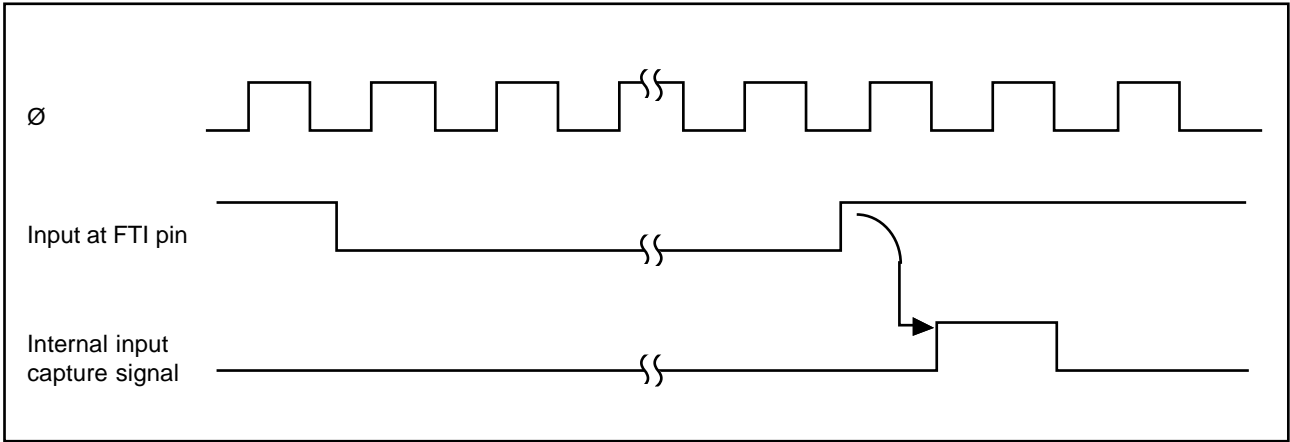

Figure 7-9. Input Capture Timing (Usual Case)
(1) Input Capture Timing without Noise Canceler: An internal input capture signal is generated from the rising or falling edge of the FTI input, as selected by the IEDG bit in the TCSR. Figure 7-9 shows the usual input capture timing when the rising edge is selected (IEDG = 1).
(2) Input Capture Timing with Noise Canceler: The noise canceler samples the FTI input, and does generate an internal input capture signal until three to four sampling clock cycles after the rise or fall of FTI. Figure 7-9 shows the timing.